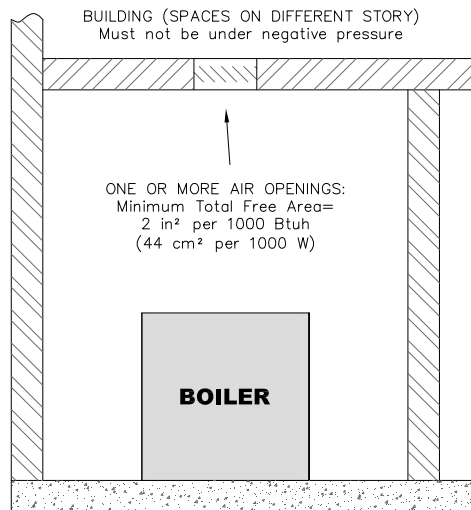

Figure 1.4: Air Openings – All Air from Indoors on Different Floors
- b. *Combining Spaces on Different Floors:* Provide one or more permanent openings communicating with additional spaces that have a total minimum free area of 2 in² per 1000 Btu/hr (44 cm² per 1000 W) of total input rating of all equipment. See Figure 1.4 for an illustration of this arrangement.